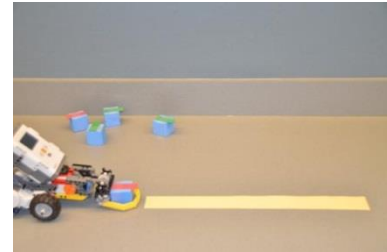

Figure 1
- Grasps the strip of paper (Chooses green or red) placed in the gripper by the staff. See Figure 1